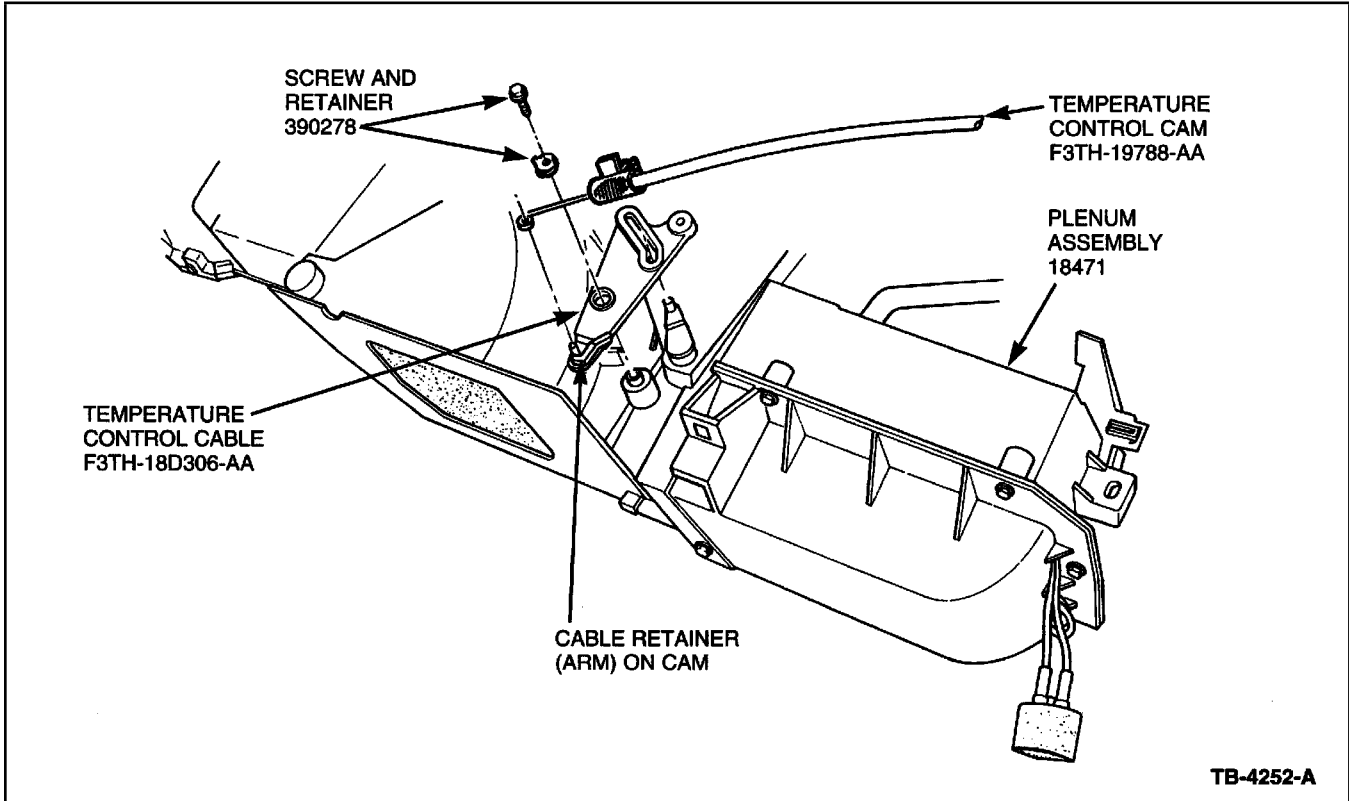

Figure 2 - Article 96-13-7
4. Remove the 5/16" headed screw from the top of the cam. Discard the cam and screw with spring clip. Refer to Figure 2.